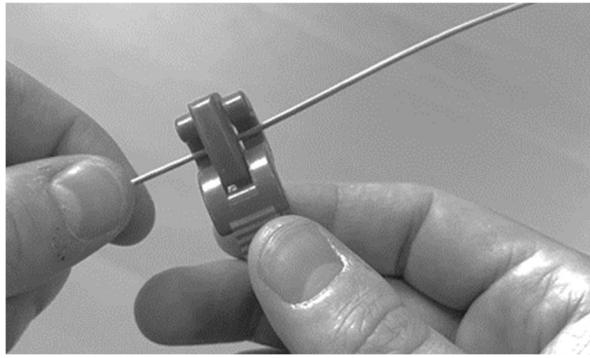

Figure 11 - Score the buffer tubes
4.12 Consult the splice closure instructions to determine the length of fibre that must be exposed. Use the recommended Miller FTS buffer tube scorer to score the buffer tubes (Figure 11) at the required length. **Make only one revolution around the tube.** The tube should be scored rather than cut. When removing a long length of tube, it is necessary to remove the tube in 300 mm to 400 mm sections. Do not remove sections greater than 400mm as this may result in fibre damage.